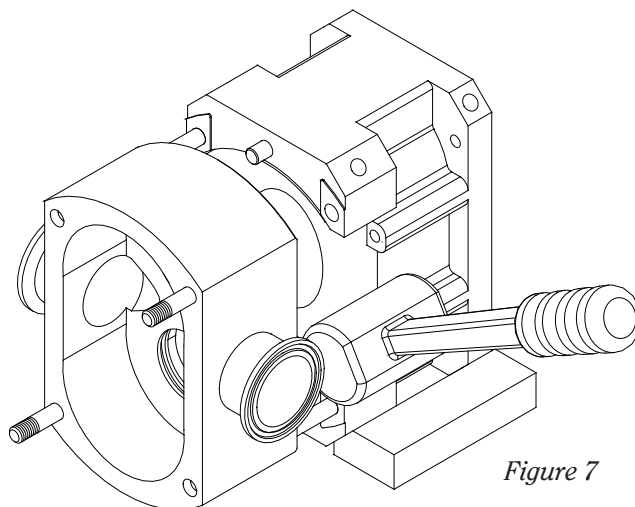

Figure 7
- b) Slide the pump housing away from the gearbox. If the housing is stuck, alternately tap on the inlet and outlet ports with a soft-faced hammer (*Figure 7*). *Note:* the gapping spacers and the rotating seals will come off with the pump housing (except for the FL2 15).